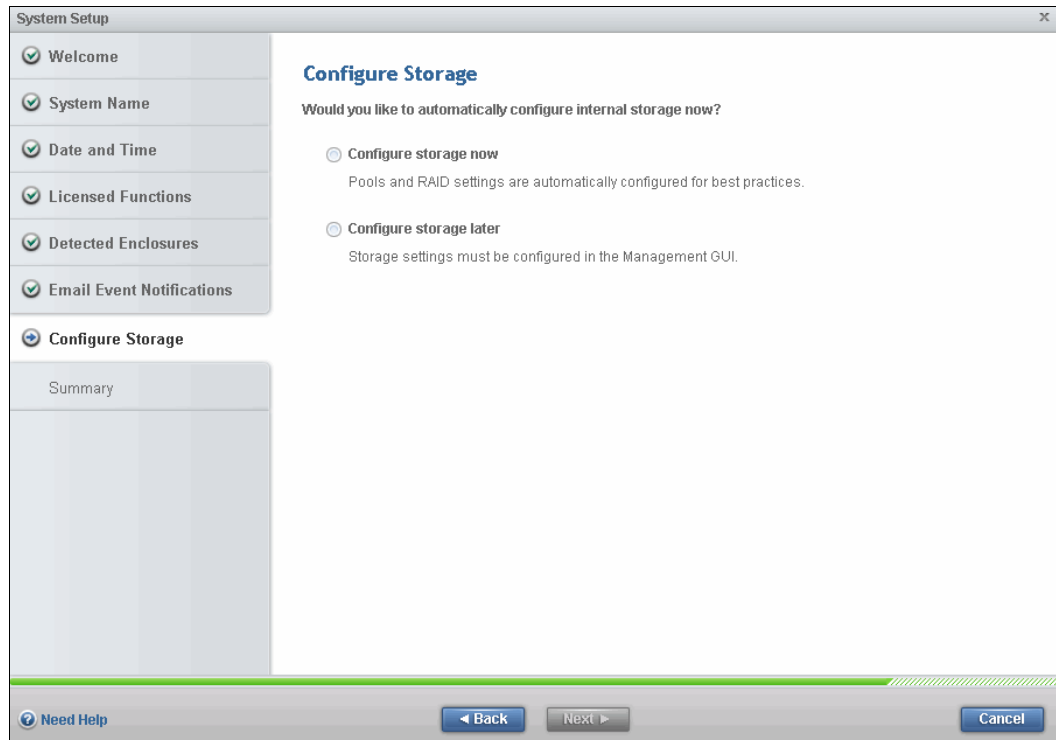

Figure 2-31 System Setup: Configure Storage
14. The initial setup wizard opens the Configure Storage option next, as shown in Figure 2-31.